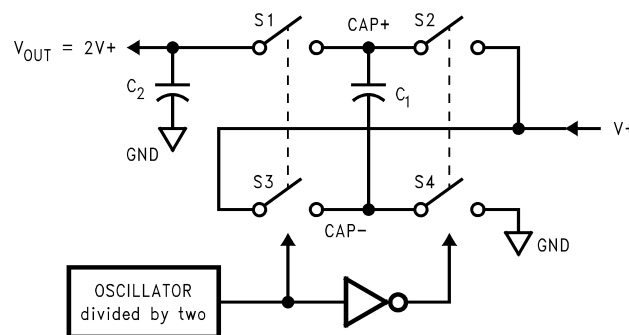

図 9-2. Voltage Doubling Principle
The LM2767 contains four large CMOS switches which are switched in a sequence to double the input supply voltage. Energy transfer and storage are provided by external capacitors. Figure 9-2 illustrates the voltage conversion scheme. When  $S_2$  and  $S_4$  are closed,  $C_1$  charges to the supply voltage  $V+$ . During this time interval, switches  $S_1$  and  $S_3$  are open. In the next time interval,  $S_2$  and  $S_4$  are open; at the same time,  $S_1$  and  $S_3$  are closed, the sum of the input voltage  $V+$  and the voltage across  $C_1$  gives the  $2V+$  output voltage when there is no load. The output voltage drop when a load is added is determined by the parasitic resistance ( $R_{ds(on)}$  of the MOSFET switches and the ESR of the capacitors) and the charge transfer loss between capacitors. Details are discussed in Section 9.
- $R_{SW}$  is the sum of the ON resistance of the internal MOSFET switches shown in Figure 9-2.